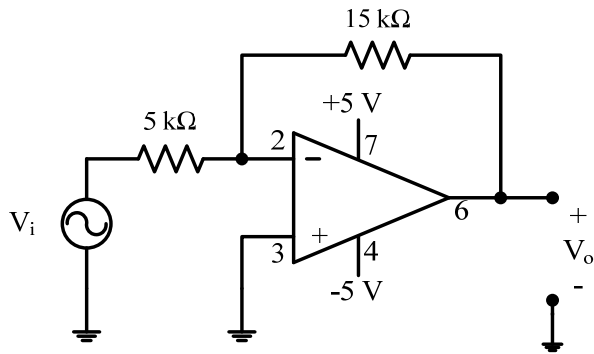

Figure 8: An inverting amplifier
- Find the voltage output of the op amp circuit in Figure 8 when $V_i = 40 \text{ mV}$.
- From Figure 8, calculate the current through the feedback resistor.